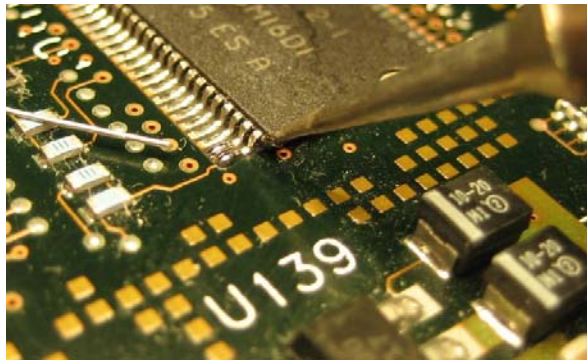

Figure 44 Solder Added to Target Points
- 1 Add some solder to the target points in the DUT. Figure 44 shows extra solder added to the pads for the first two pins on an IC package.